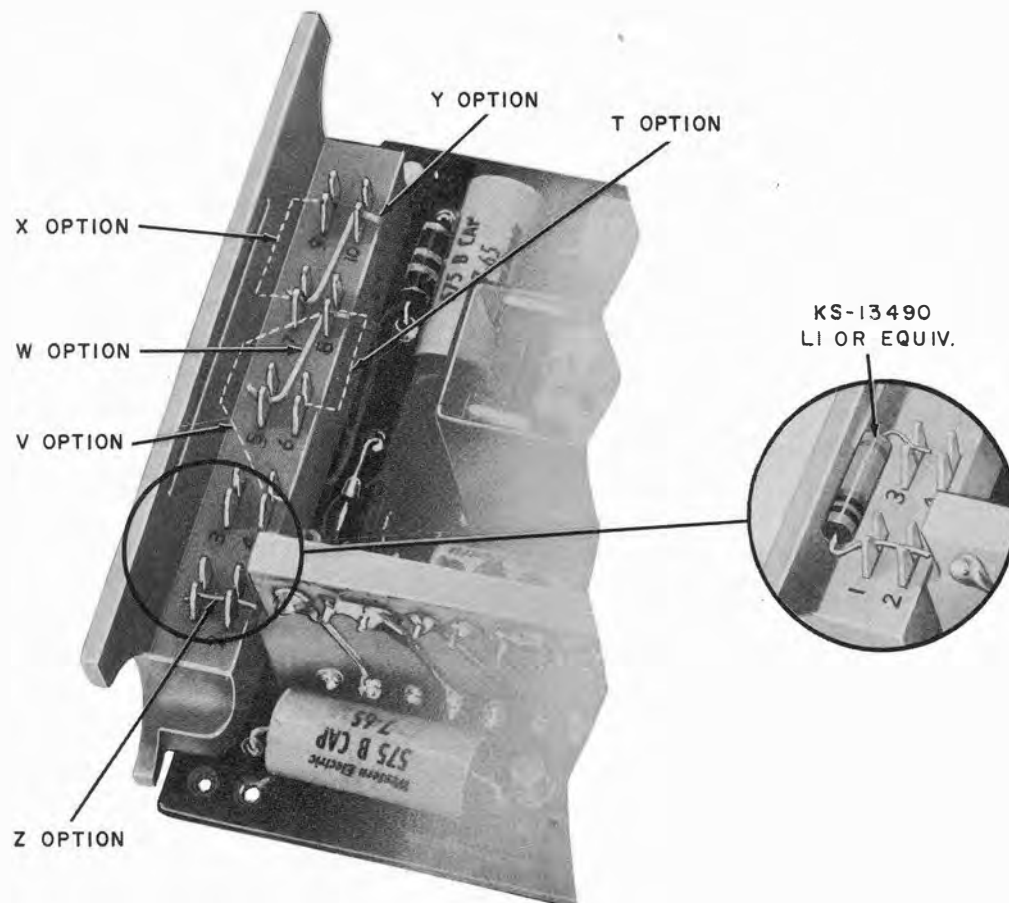

Fig. 6 — Option Block — Handle, 400D KTU
- (1) Determine in seconds, the existing short time-out interval. Do this by dialing one line from another line at the same station, and counting the number of flashes on the called line lamp after hanging up on the calling line. Count one second for each flash of the lamp.
- (2) Select a resistor from Table B which will provide the time-out interval desired. The resistor selected will reduce the original time-out interval to the fractional value shown.
- (3) Remove the Z option strapping.
- (4) Connect one lead of the selected resistor to terminal 3 on the option block. Connect the other lead to **both** terminals 1 and 2 (Fig. 6).